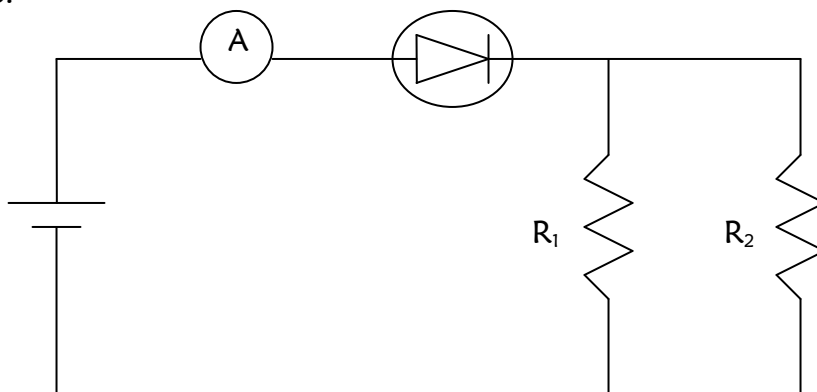

Figure 3. Setup for the first parallel circuit.
14. Add an ammeter and LED in series with the battery. Look at Figure 3 for help.
- If there were a parallel circuit like the one shown in Figure 3. Which LED would be the brightest? Why?